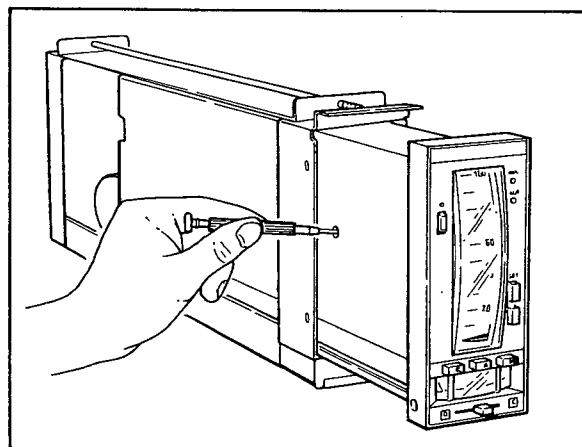

Figure 6-2-1. Zero Adjustment of Measurement Pointer.
- (1) Apply a voltage of 3.0 V DC to process variable input terminals X1 (terminals 1 (+) and 2 (-)) from the DC voltage/current standard.
- (2) Check that the measurement pointer indicates $50\% \pm 0.5\%$ of the calibration mark on the scale plate.
- (3) If the reading is not in this range, rotate the zero adjustment screw to point to 50%, as shown in Figure 6-2-1.
- (4) Change the input signal to 1.0 V, 2.0 V, 4.0 V, and 5.0 V DC, and check that the readings are at 0%, 25%, 75%, and 100% calibration marks, respectively. The tolerance is $\pm 0.5\%$ of span. Check each calibration mark at the position where the line of sight and set-point value indicator are horizontal.
- (5) If the tolerance is exceeded in (4), apply 3.0 V DC again and make fine adjustments with the reading to fit in the range of $50\% \pm 0.5\%$.
- (6) Repeat (4) and (5) until the readings at all input points are held within the tolerance.